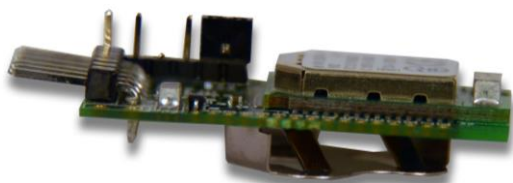

Figure 15: Coin cell battery slot
11. Install a coin cell battery (CR1632)(Figure 15) in the slot on the bottom of the module.